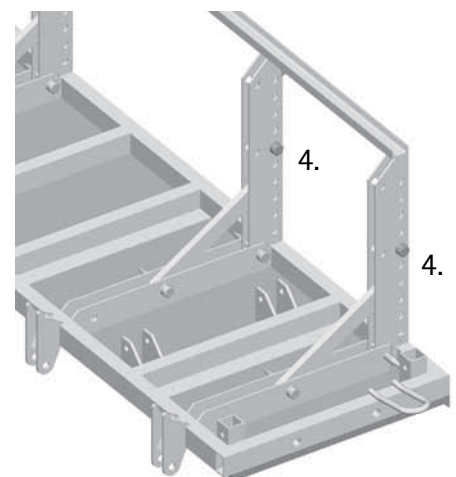

Fig. 15
4. The Grip bolts required for this connection are located in the wings' perforated strips (Fig. 15).